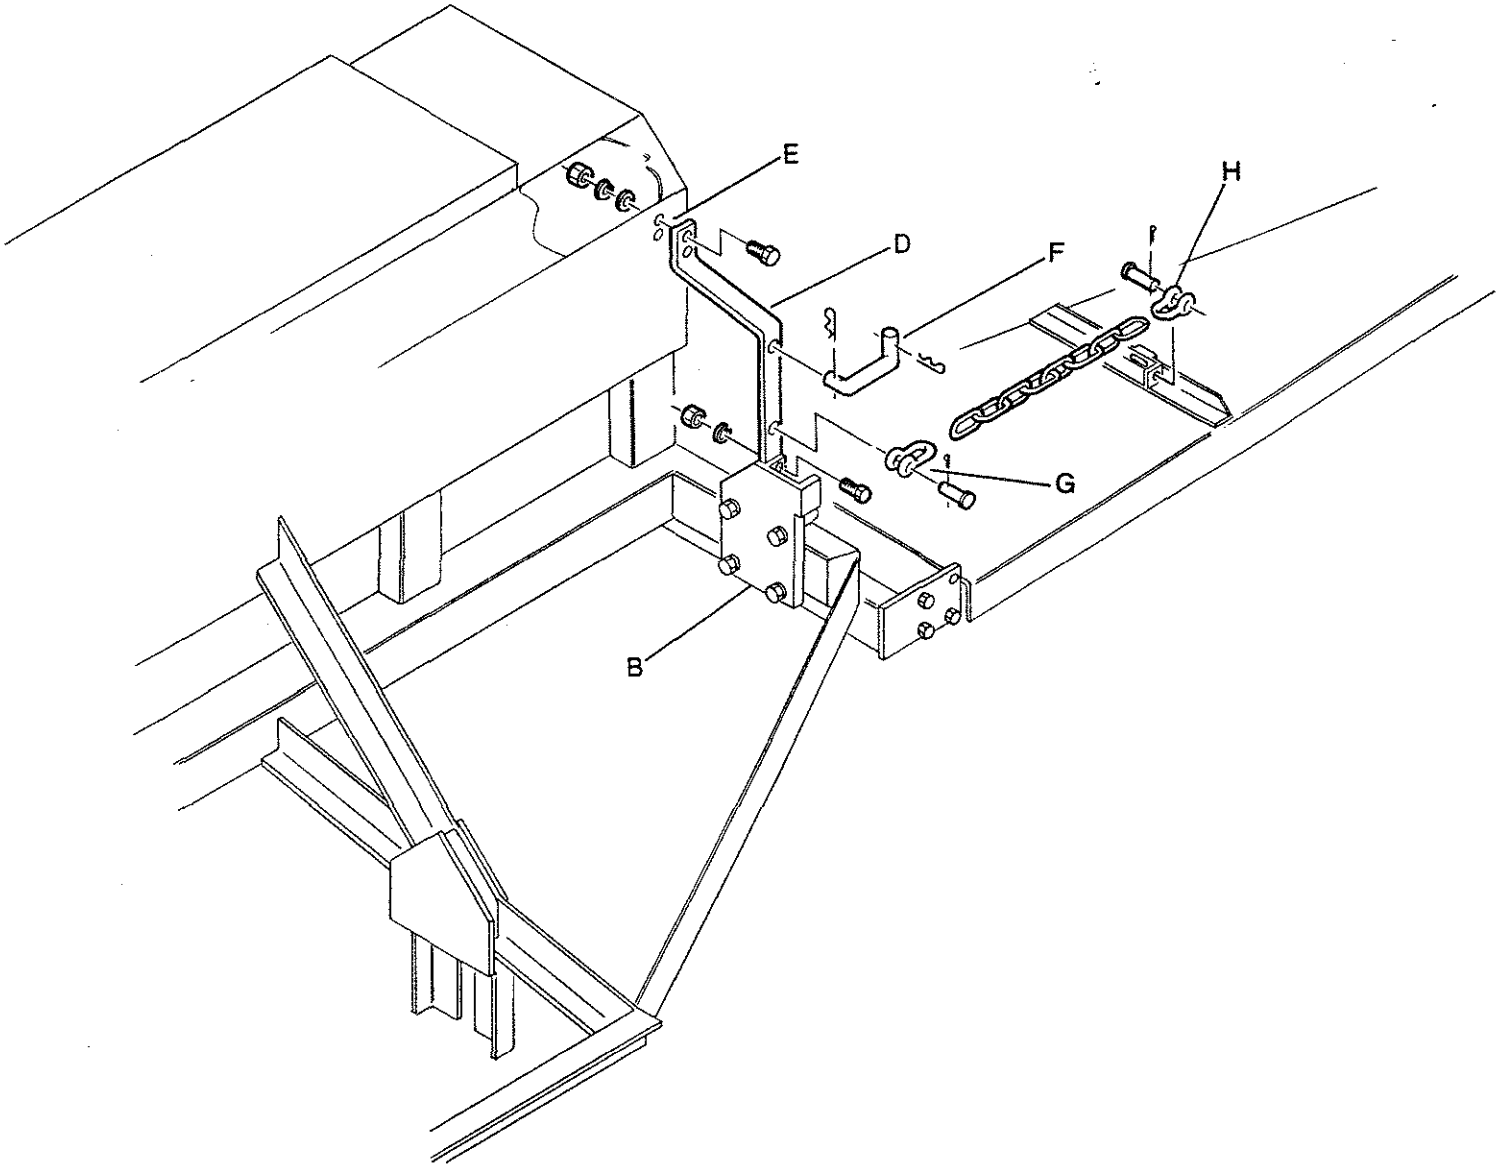

Figure 2
3. Attach bottom of Marker Lock Bar (D) to Mounting Plate (B) with two $\frac{3}{8}$ " x $1\frac{1}{2}$ " long bolts, lockwashers and hex nuts (see fig. 2). Drill two $\frac{13}{32}$ " holes (E) into Seed Box aligning with holes in top of Lock Bar. Secure Lock Bar to Box with two $\frac{3}{8}$ " x $1\frac{1}{2}$ " long bolts, flatwashers, lockwashers and hex nuts inside box panel.